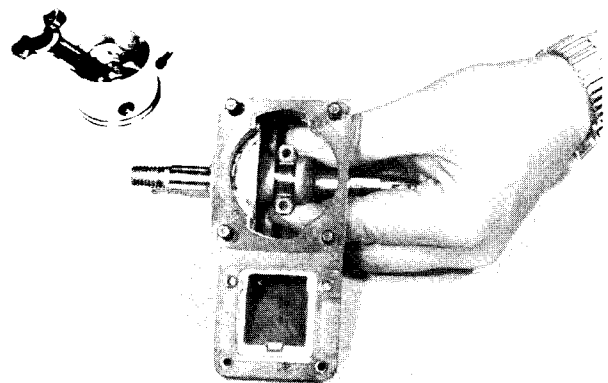

Fig. 43 — Rod Cap Positioned on Crankshaft Prior to Installing Rod and Piston
7. Set rod and piston aside and position needles in rod cap. Work through side and position rod cap on crankshaft with mating mark out, Fig. 43.